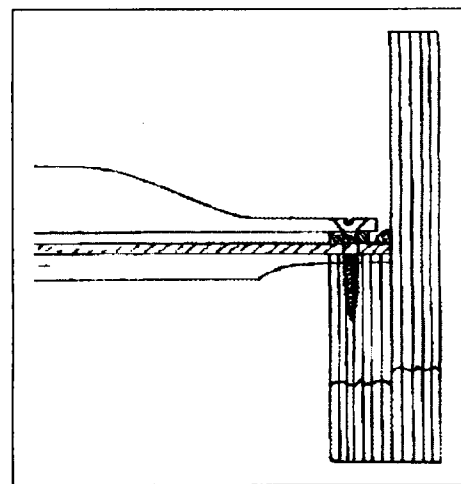

Figure 1
If by some remote chance you have never done this, take a look underneath the plate of a typical grand piano, perhaps with a light and inspection mirror. Notice that for every plate fastener, there is also a bedding dowel on either side of it. These bedding dowels are typically not the same height, especially between groups of two. The function of the dowels is essentially that of leveling devices, to determine plate height in relation to bridge(s), the influences of string bearing and resulting soundboard loading, and of lesser importance, to compensate for slight inconsistencies in the plate casting. Information on plate positioning has been well documented by Nick Gravagne and others, and is beyond the scope of this discussion. Our responsibility is to see that the plate rests on these dowels. Figure 1, lifted from our "Piano Parts and Nomenclature" book, shows an x-ray view of a properly seated plate. The primary reason for checking
By now, it should be apparent that we want the plate to touch (rest on), the bedding dowels, as in figure 1. Any less than this, and the system does not work as an integral unit. Any more, and we risk the possibility of (1) causing the bedding dowels to "mushroom" (yes, this can happen, even with end-grain hardwood); (2) stripping the thread pattern out of the wood in the rim, (3) torquing the head off the fastener, or (4) setting up a stress potential in the plate in the area of the plate fastener, although I believe the odds are against this possibility, due to the proximity of the fasteners to the bedding dowels. Either way, some discretion must be observed. Some of us labor under the assumption that a fastener is not tight unless no one else can loosen the joint! This is not the criterion here. If a descriptive word is needed, see if "snug" works for you.